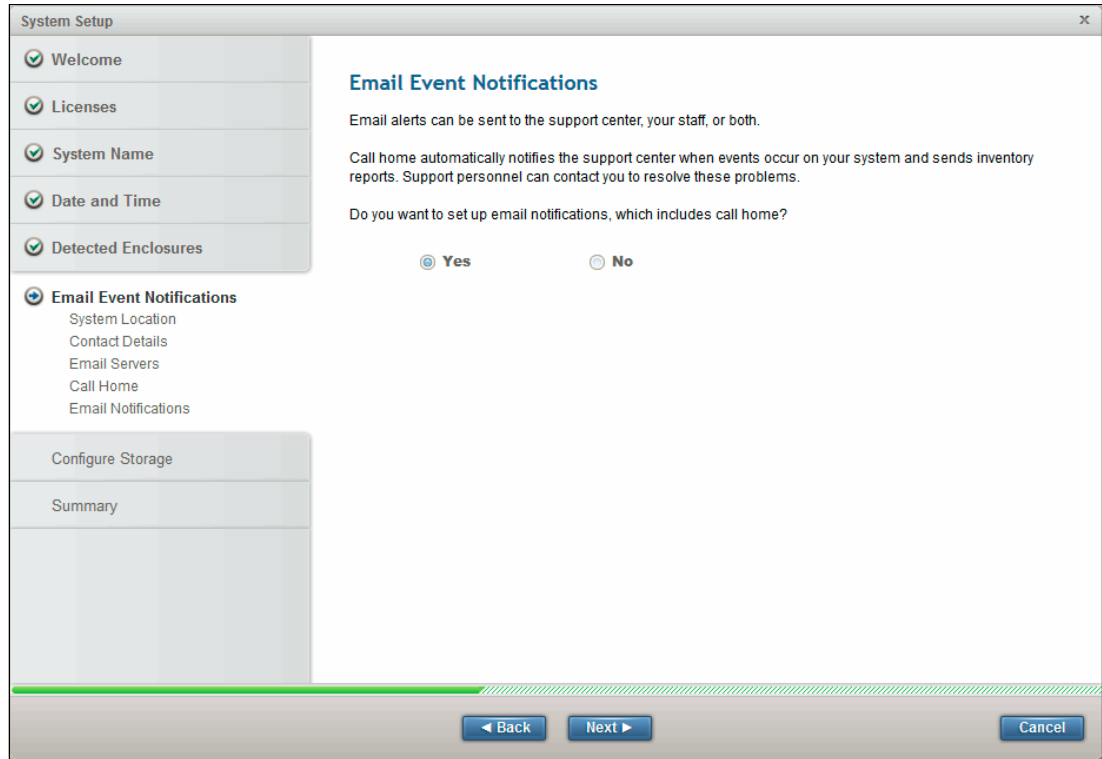

Figure 5-20 Email Event Notification
13. Click **Apply and Next**. You are asked if you want to set up Email Event Notifications, as shown in Figure 5-20.